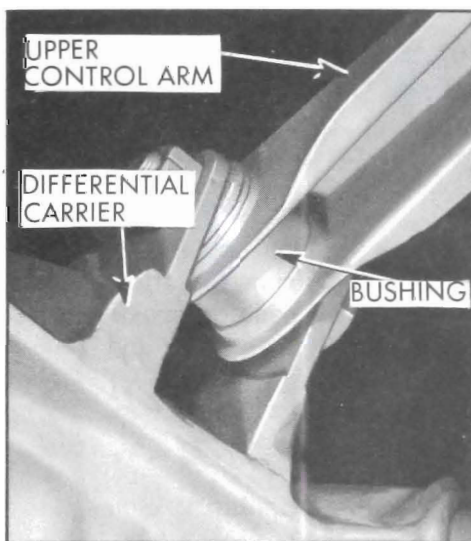

Figure 7-31—Rear Upper Control Arm Rear Attachment
2. Disconnect control arm at carrier housing by removing arm bolt and lock nut. See Figure 7-31.